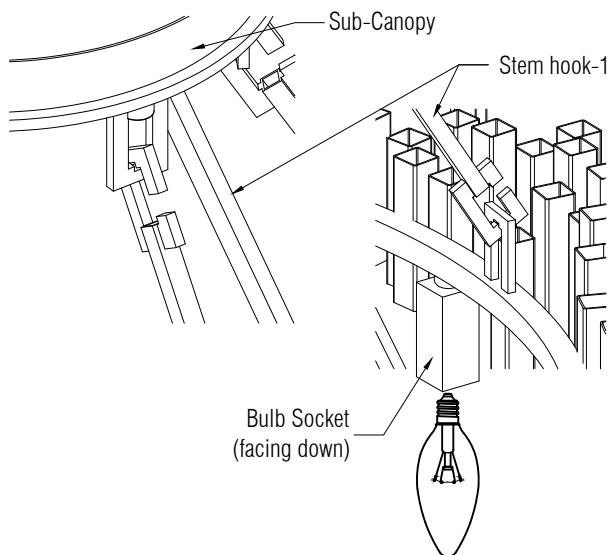

FIGURE 04
5. Attach 6-Stem hook-1(P) to the Sub-Canopy(L) then install the 1st tier frame, make sure sockets are facing down. (see fig. 04).